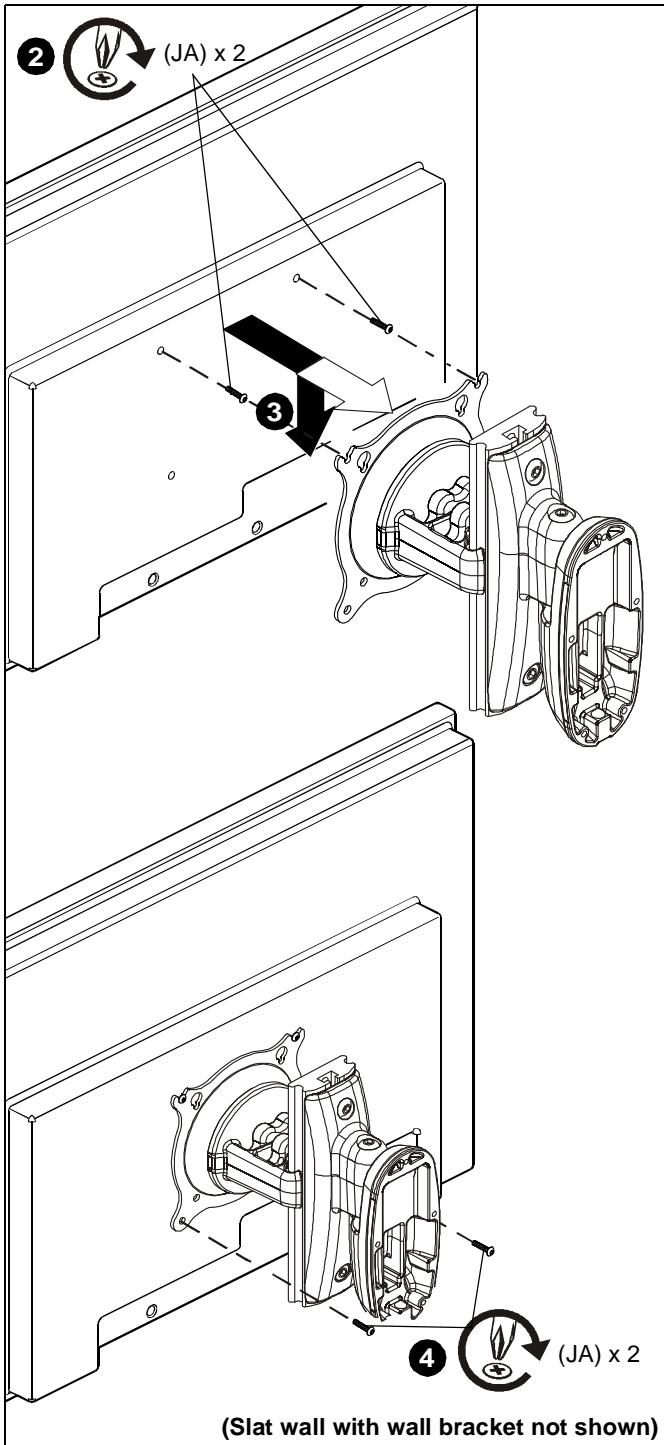

Figure 11
- Using Phillips screwdriver, carefully install two M4 x 12mm Phillips pan machine screws (JA) into the *upper* mounting holes on the display. Thread screws completely into display, then back out 3 complete turns. (See Figure 11)
- Pick up and align display so that screws (JA) (installed on the back of the display in the previous step) fit into the mounting holes on the Centris bracket; rotate the bracket as required. Lower the display firmly into place. (See Figure 11)
- Using Phillips screwdriver, install two remaining M4 x 12mm Phillips pan machine screws (JA) through the *lower* mounting holes in Centris bracket into the display. (See Figure 11)
- Tighten all four screws (JA). Do not overtighten!